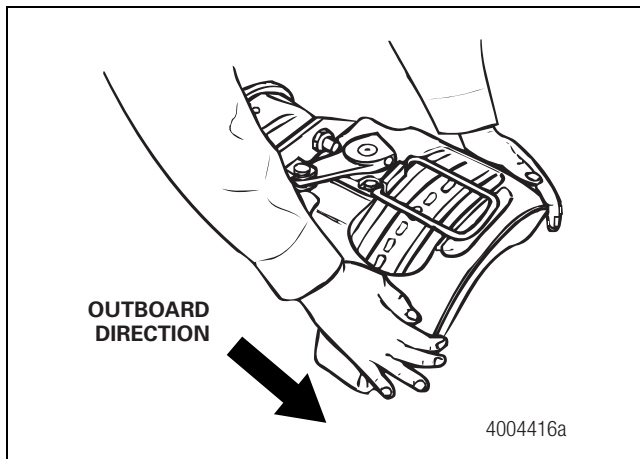

Figure 7
- Verify that the caliper slides freely on the slide pins. Figure 7.